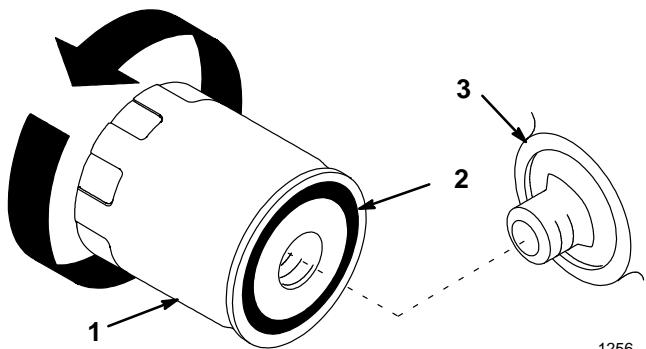

Figure 29
2. Remove the old filter and wipe the filter adapter (Fig. 29) gasket surface.
3. Apply a thin coat of new oil to the rubber gasket on the replacement filter (Fig. 29).
4. Install the replacement oil filter to the filter adapter. Turn the oil filter clockwise until the rubber gasket contacts the filter adapter, then tighten the filter an additional 1/2 turn (Fig. 29).